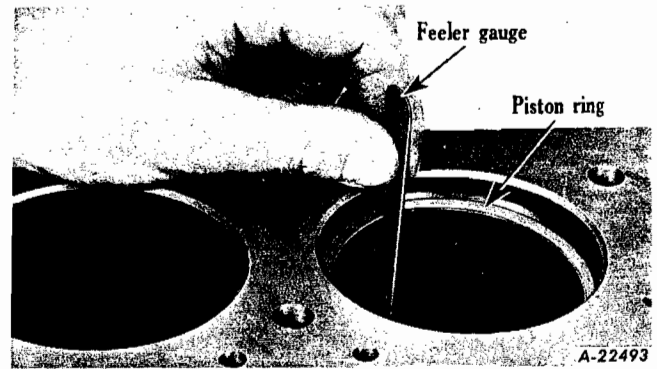

Fig. 33 - Checking ring gap.
2. Place piston and connecting rod in vise. Test each piston ring for proper gap by placing in cylinder and measuring gap with feeler gauge. Gap should be .016" to .026" (Fig. 33).